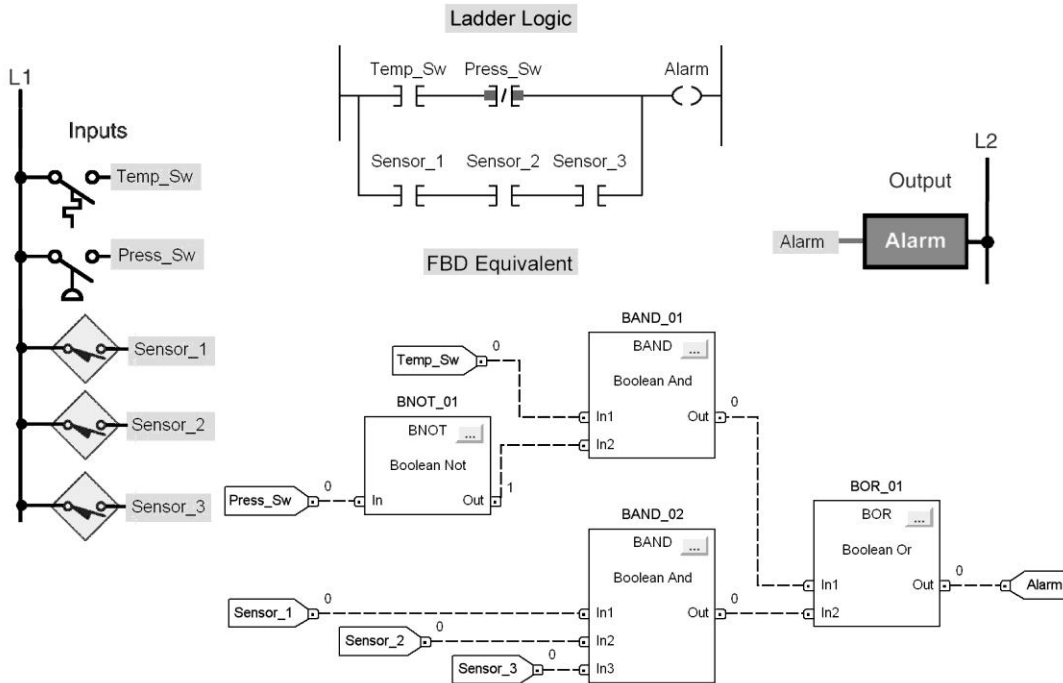

Figure 15-61 Multiple inputs program for assignment 3.
3) The programs of Figure 15-61 show the ladder logic and the FBD equivalent for a combination of multiple inputs logic. Prepare a function block program that will simulate its operation. Utilize field devices found on your ControlLogix installation. Enter the program into the controller, and verify its operation.